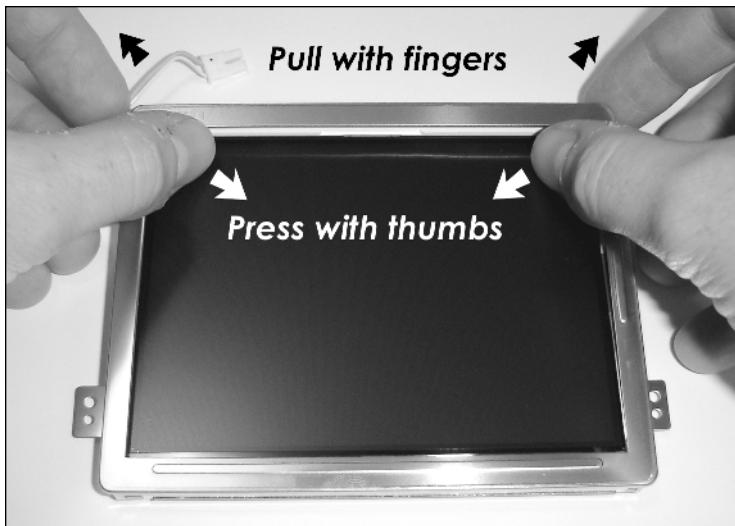

FIGURE 4-24: Removing the shield. (Don't eat potato chips just before doing this.)
8. With all the tabs undone, carefully press against the screen with your thumbs and lift the side tabs with your other fingers to remove the metal shield, as shown in Figure 4-24.